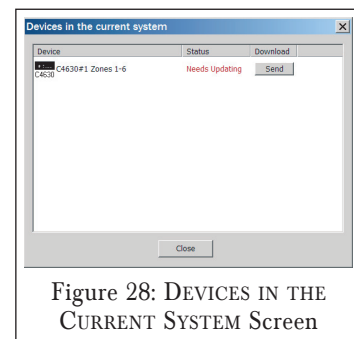

Figure 28: DEVICES IN THE
3. Open the COMMUNICATION menu and select SEND TO DEVICE. The DEVICES IN THE CURRENT SYSTEM screen (*Figure 28*) will appear. All C4630 SEs in the system will be listed in the window.